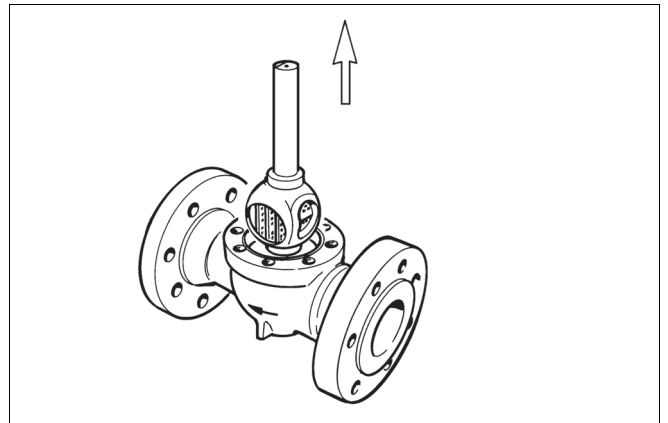

Fig. 12 Lifting the ball from the body
- Lift the ball. Check that the unbroken side of the ball does not rest on the seat, see Fig. 12.